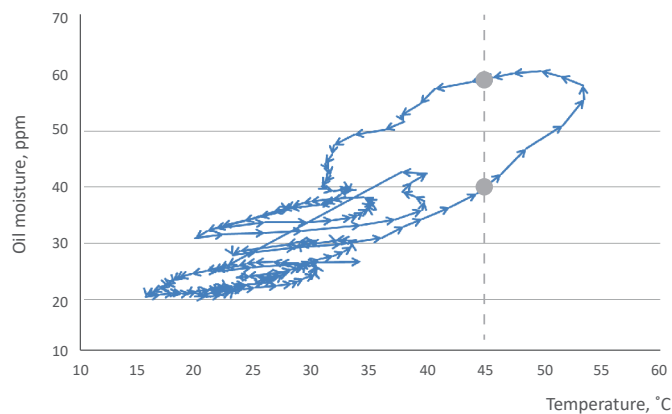

Figure 5. Moisture dynamics: hysteresis**
4. As the water diffusion time is faster from the paper to the oil than the opposite it is possible to reach on a same transformer several very different PPM values for the same oil temperature even at a few days difference (see figure 5).